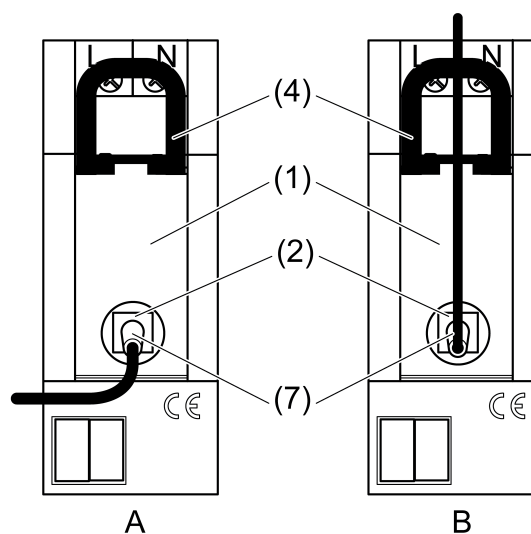

Figure 4
- Insert the antenna connector (7) into the SMB socket (2) of the radio receiver (1) (Figure 4).
- Unlock the black slide (4) by pulling up on the end of the bow and pull out slide (Figure 4).
- Insert the antenna connector (7) into the SMB socket (2).